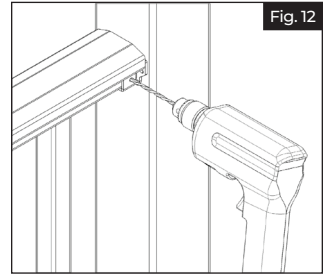

Fig. 12
- b. Using a $\frac{5}{32}$ " drill bit, predrill the top rail in the two locations on the metal bracket. Install #10 x1" screws in pre drilled holes of each of the metal brackets (Fig 12).